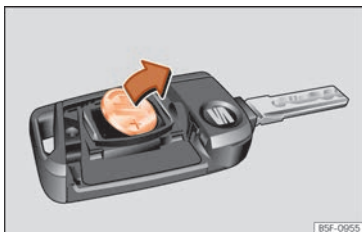

Fig. 120 Vehicle key: removing the battery.
- Extract the battery from the compartment using a suitable thin object » **Fig. 120**.
- Place the new battery in the compartment as shown » **Fig. 120**, pressing in the opposite direction to that shown by the arrow » **!**.